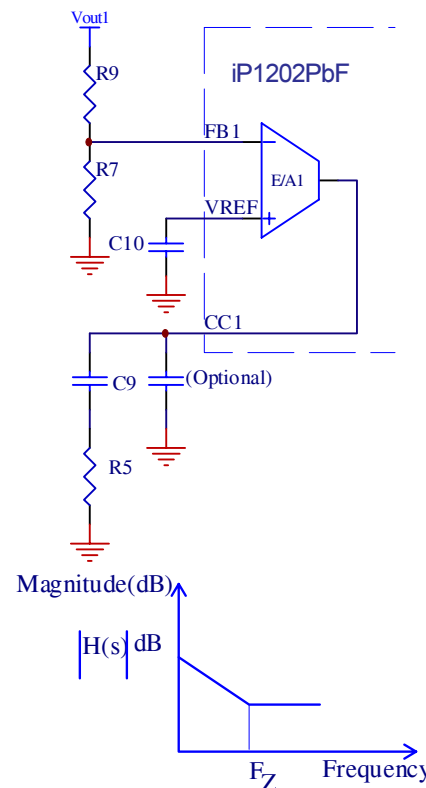

Fig. 18: Typical Type II compensation and its gain plot
From Fig.18 the transfer function $H(s)$ of the error amplifier is given by (11):
Sometimes, a pole f_{p2} is added at half the switching frequency to filter the switching noise. This is done by adding a capacitor C_{opt} in Fig.18 from the output of the error amplifier (CC pin of iP1202PbF) to ground. This pole is given by equation (16):